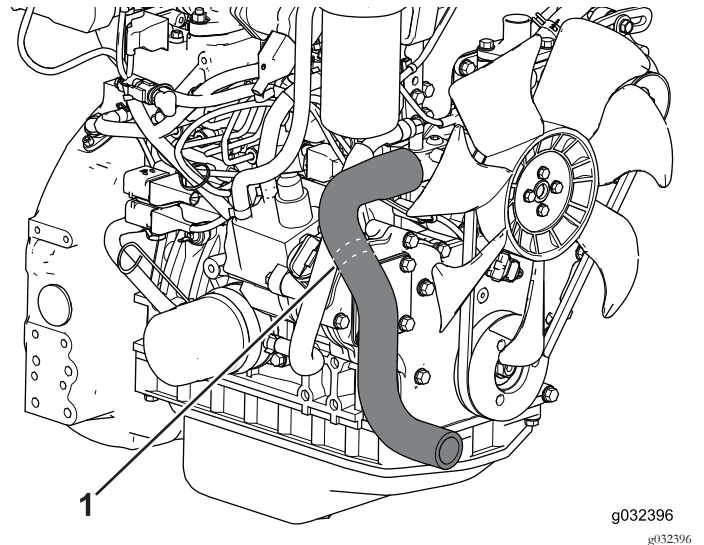

Figure 18
1. Locate the radiator hose (Figure 18).
2. Use a cutting tool to cut the radiator hose at the cut lines (Figure 18).